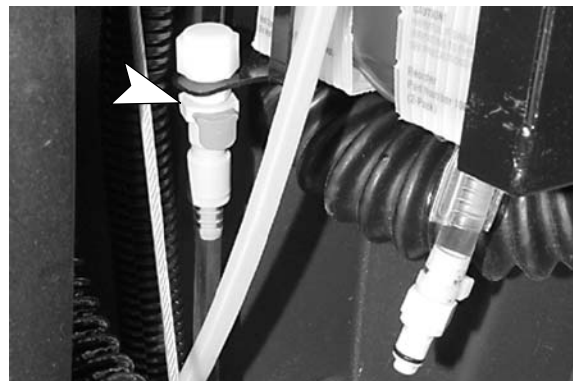

FIG. 33
- FaST Model Only: When FaST-PAK carton is not installed on machine, make sure the supply hose is connected the hose storing plug. This will prevent the FaST solution system from drying out and clogging up (Figure 33). If any dried concentrate is visible on the FaST-PAK connector or supply hose connector, soak in warm water to remove.